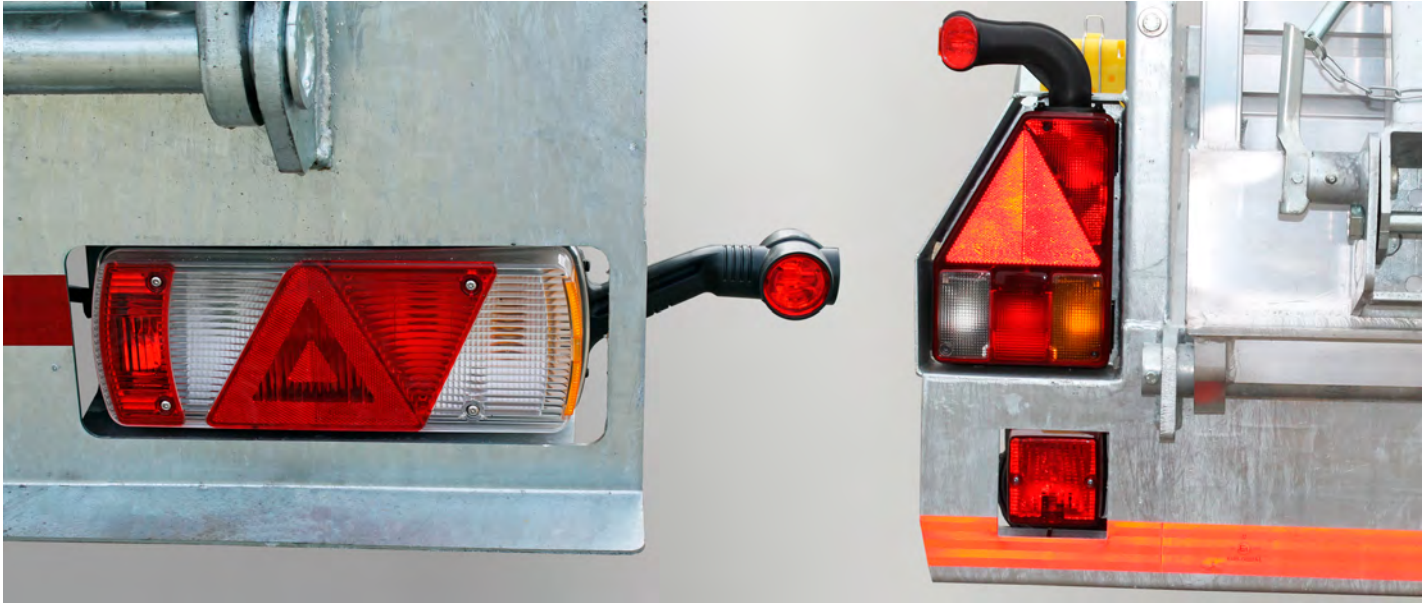

Fig. 82 Push-in slats inserted
- ▶ Insert the push-in slats (Fig. 82/1 & 2) in succession, starting from below, into the slot-in pockets (Fig. 82/3) of the corner/middle posts.